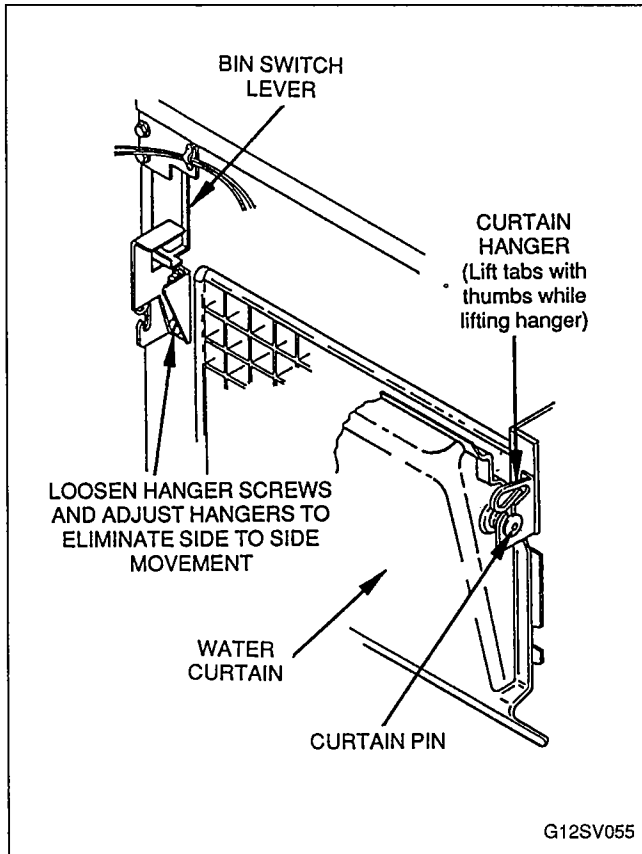

FIGURE 53. WATER CURTAIN CHECK
1. Pull bottom of water curtain (Figure 53) away from evaporator, then release. Curtain should fall back to evaporator.